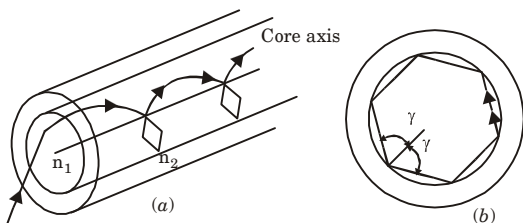

Fig. 1. The helical path taken by a skew ray in an optical fiber:
4. From Fig. 1, it is observed that the helical path traced through the fiber gives a change in direction of 2γ at each reflection where γ is the angle between the projection of the ray in two dimensions and radius of fiber core at the point of reflection.